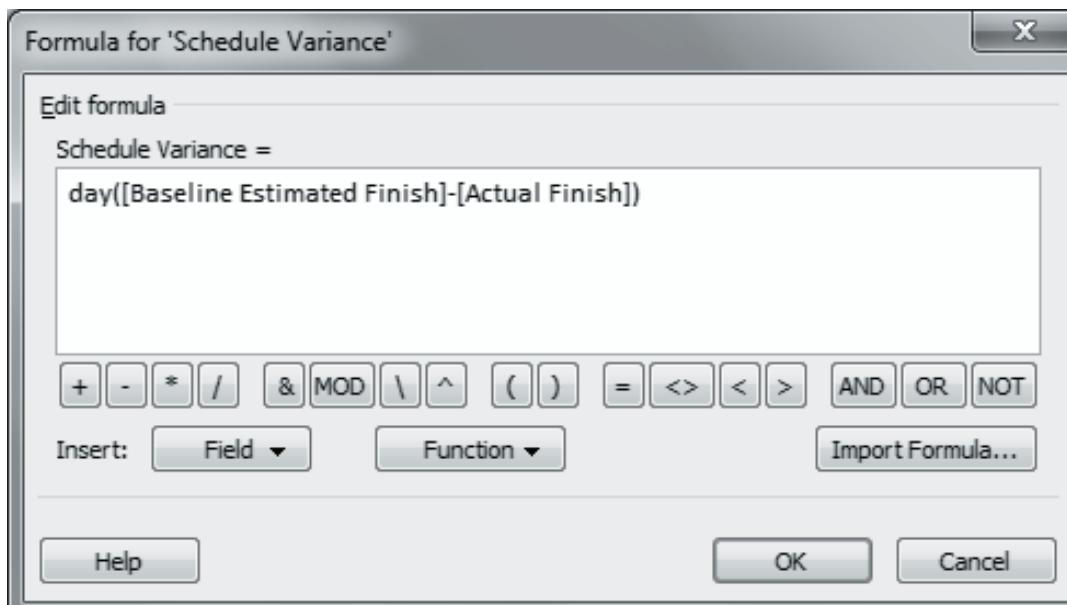

Figure 12.2: Formula Field Dialog Box
4. Insert the fields in the formula by selecting the columns from the **Field** drop-down list and applying mathematical calculations as shown in figure12.2.